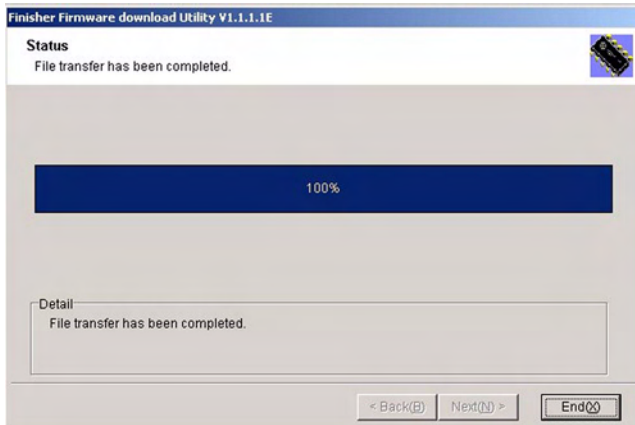

Figure 6 File Transfer
- f. When File transfer has been completed appears (Figure 6), click End.